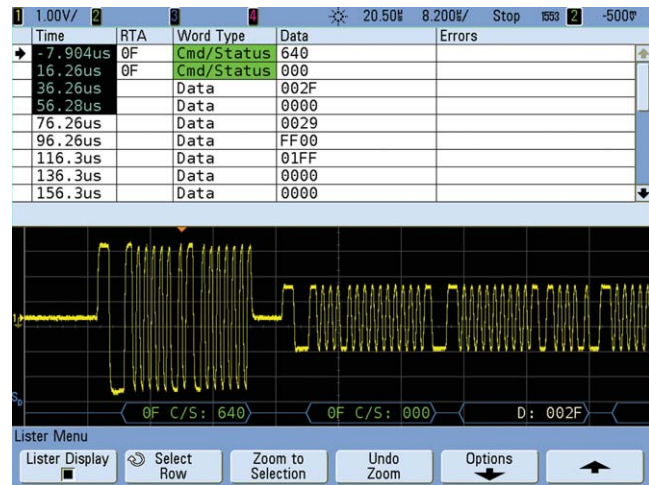

Figure 1: Time-correlated display of the MIL-STD 1553 physical layer signal with protocol decoding.
Figure 1 shows an example of the scope capturing and displaying MIL-STD 1553 communication between a Bus Controller (BC) and a Remote Terminal (RT). The decode trace at the bottom of the display, which is time-correlated with the captured waveform just above it (yellow trace), shows the decoded Command Word followed by the Status Word response color-coded in green. Following the Status Word we see the beginning of a stream of Data Words transmitted by the RT. The upper half of the scope's display shows the scope's protocol "lister" display. This display shows the "big picture" of MIL-STD 1553 FlexRay protocol communication that occurs both before and after the trigger event. And with Agilent's new 7000B series scopes, you can also easily Search & Navigate within the lister display to find particular events of interest with direct time-correlation to the waveform display.